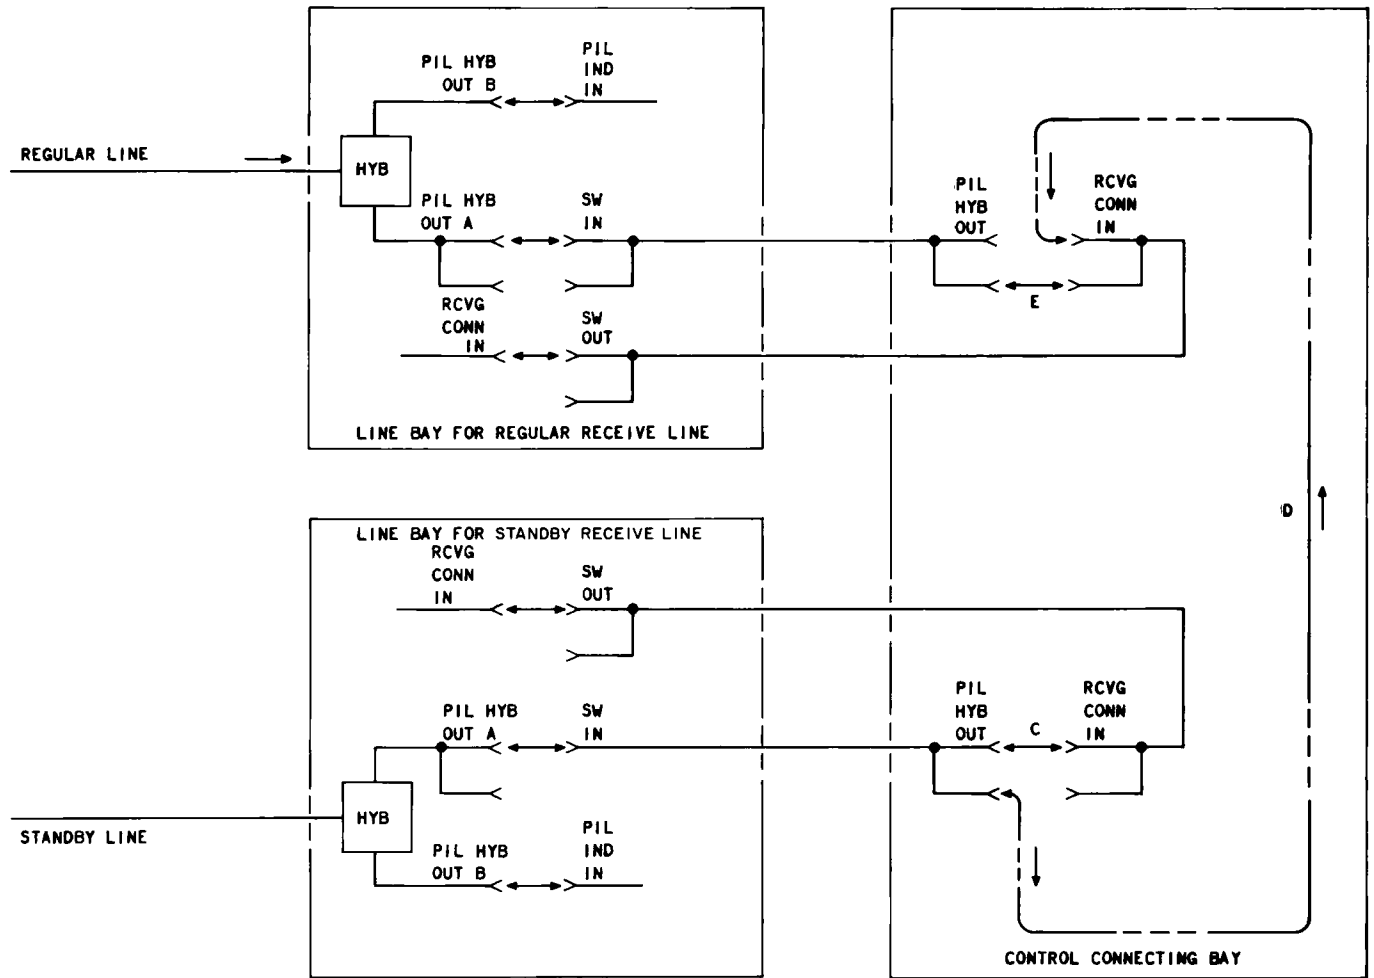

Fig. 3—Line Protection Patch for Receive Line
2.03 Signals on the standby receive line are patched to the line connecting circuit for a regular receive line as shown in Fig. 3.